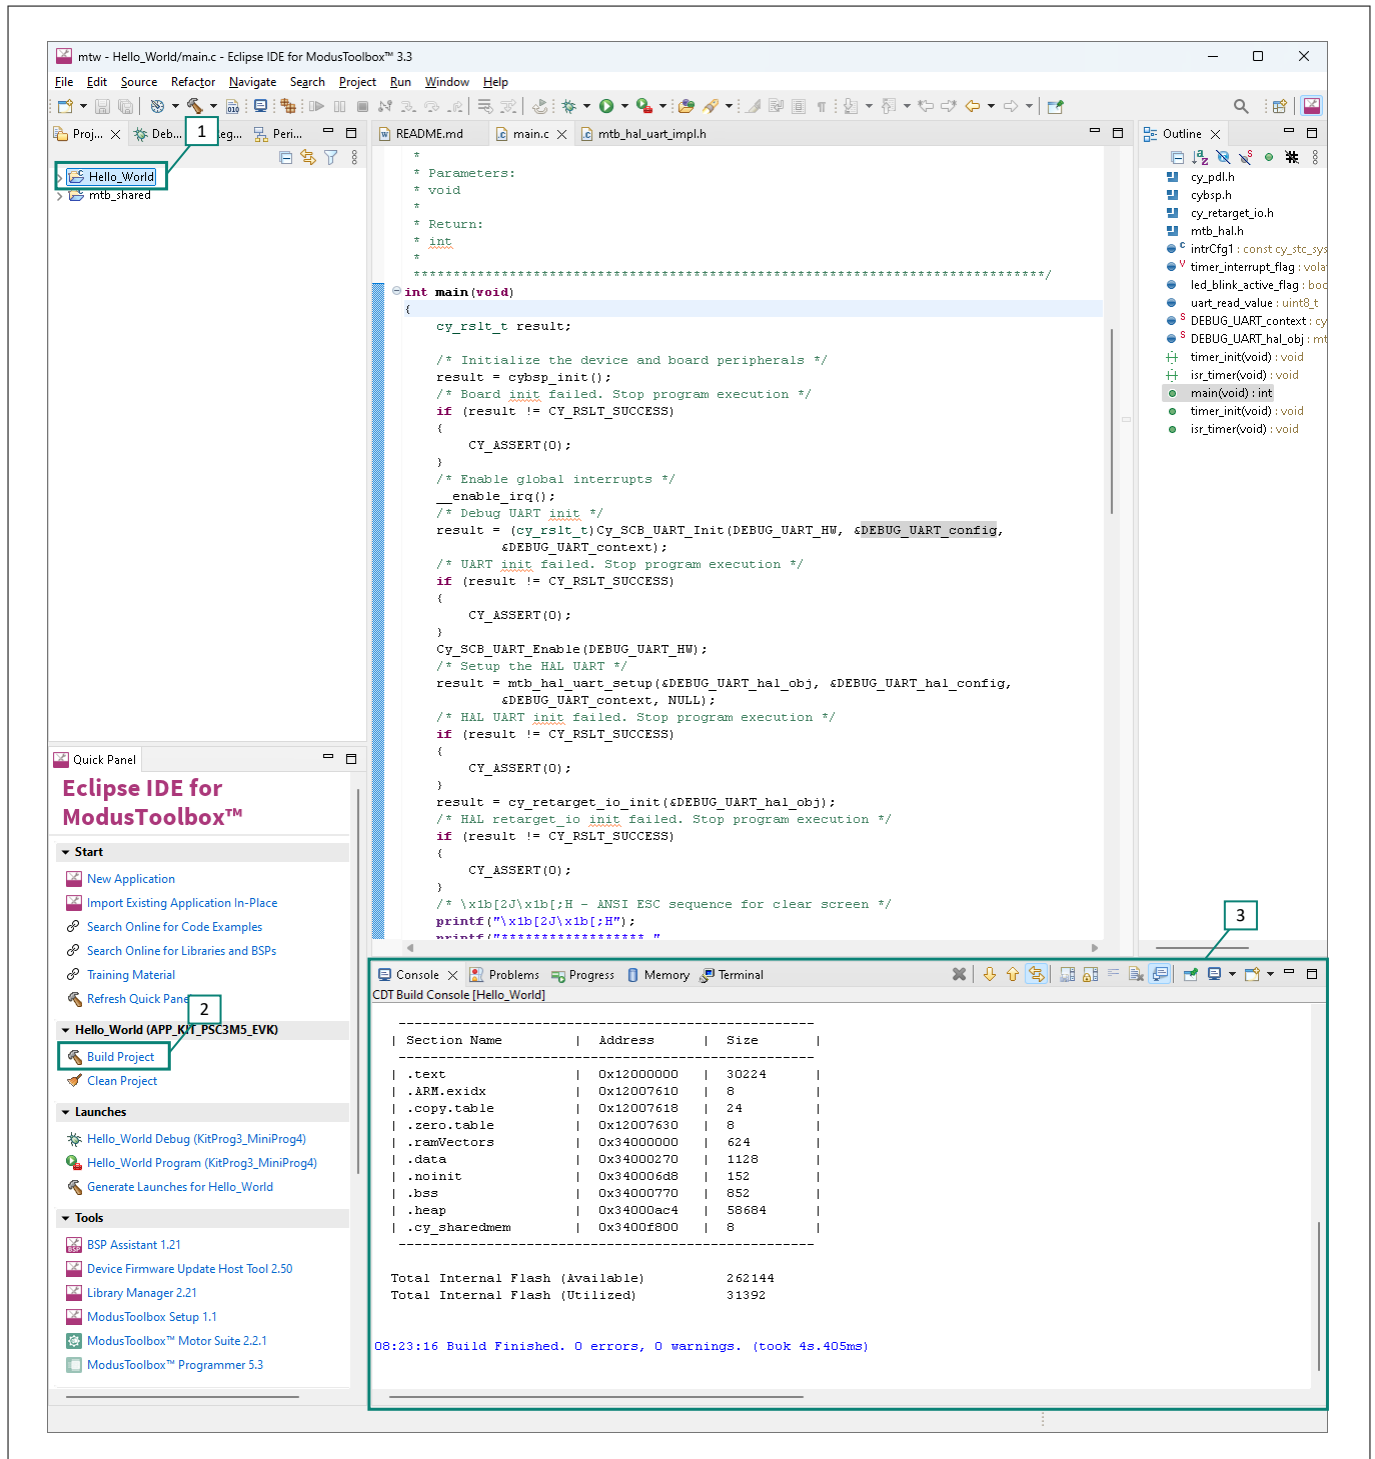

Figure 14 Build the application
- The **Console view** lists the results of the build operation, as Figure 14 shows.